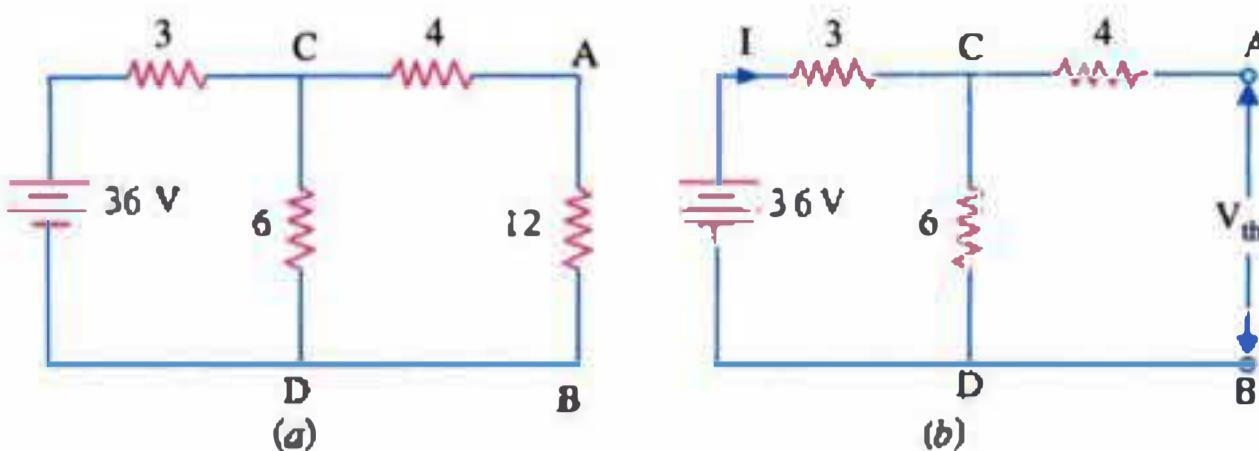

Fig. 4.10
**Example 4.3.** Apply Thevenin's theorem to find current through the  $12\ \Omega$  resistor of the circuit shown in Fig. 4.10 (a).
**Solution.** In Fig. 4.10 (b), point A is at the same potential as point C since there is no current through the  $4\ \Omega$  resistor and hence no drop across it.
**Solution.** It is the same circuit as shown in Fig. 4.10 (a) and solved earlier with the help of Thevenin's theorem (Example 4.3). When applying Norton's theorem, the procedure would be as under :